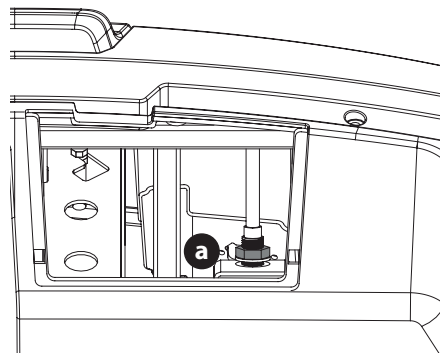

Figure 28
2. Locate the shift lever adjustment nuts (a) (Figure 28).
3. Adjust the nuts (a) up or down until the shift lever is working properly (Figure 28).